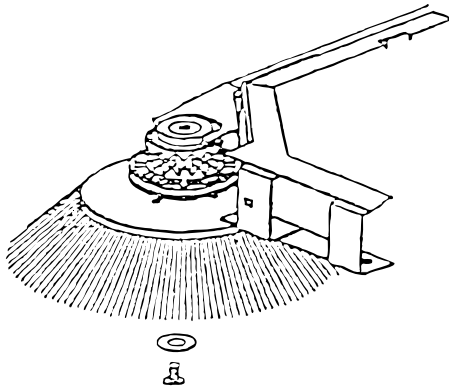

FIG. 1.
1. Mounting the side brush (Figure 1).